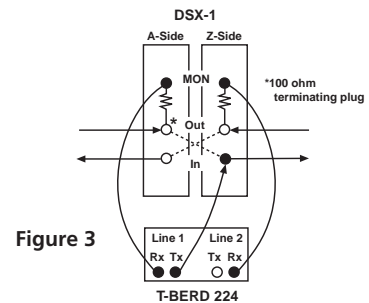

Figure 3
- 3 First connect a cable from the T-BERD 224's **LINE 1 TX** jack to the DSX-1 Z-Side IN jack, then immediately insert a 100 ohm terminating plug into the A-Side OUT jack (Figure 3). **NOTE: NEVER insert the terminating plug first.**